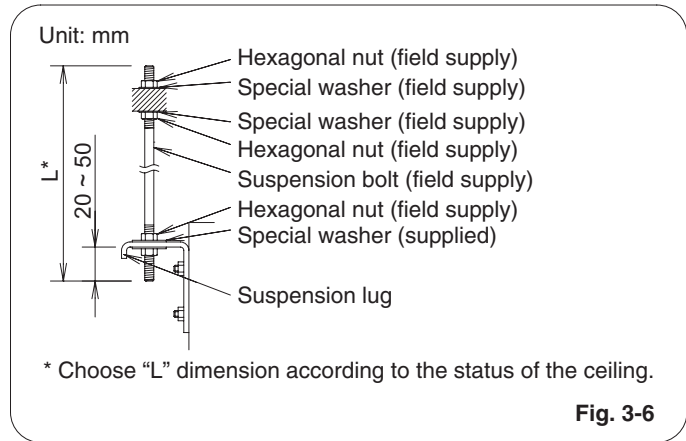

Fig. 3-6
- (3) Suspend and fix the indoor unit using the 2 hexagonal nuts (field supply) and special washers (supplied with the unit) as shown in Fig. 3-6.